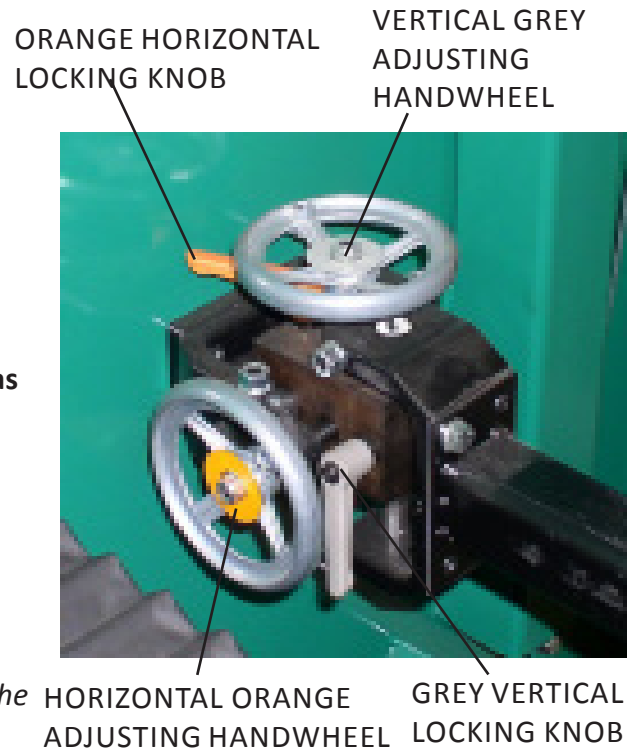
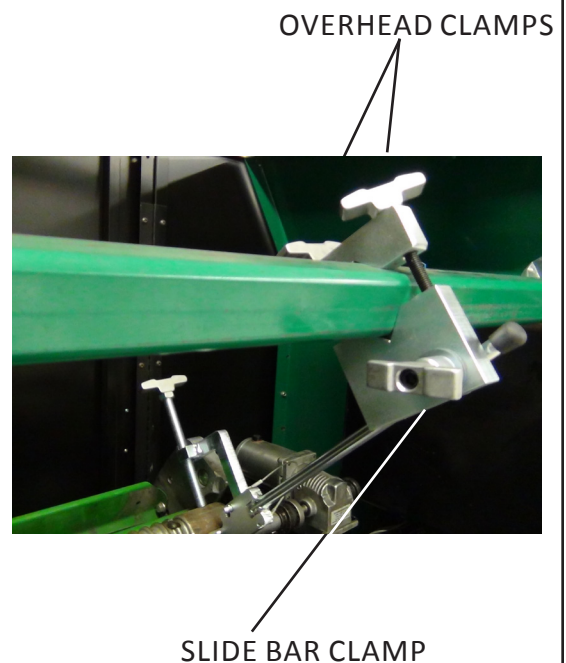

FIG. 54
FIG. 55
H. When the horizontal parallelism has been adjusted to within .003" (.076 MM) end to end, tighten the horizontal adjustment locking handle. See FIG. 54 and both overhead clamp adjusting knobs. See FIG. 55. When tightening the knob it is very important that you have the dial indicator located at that side of the reel and watch it as you tighten. It must not move in the tightening process. After both knobs are tight, recheck alignment.